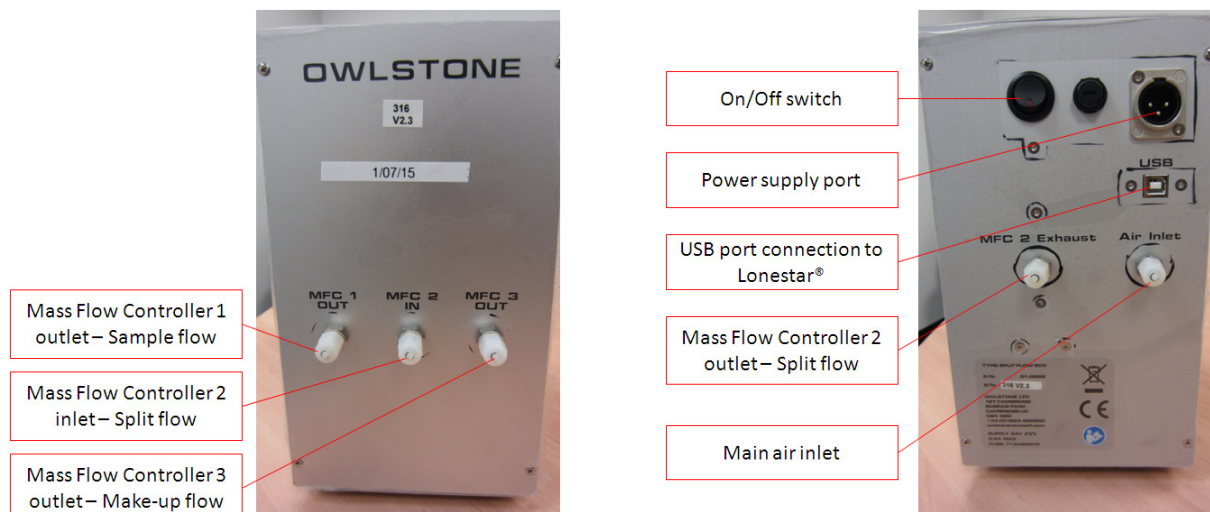

Figure 4 ATLAS™ Split Flow Box front view (left) and back view (right)
- The ATLAS™ Split Flow Box with Swagelok® fittings capped off to avoid dust contamination during transportation (Figure 4).